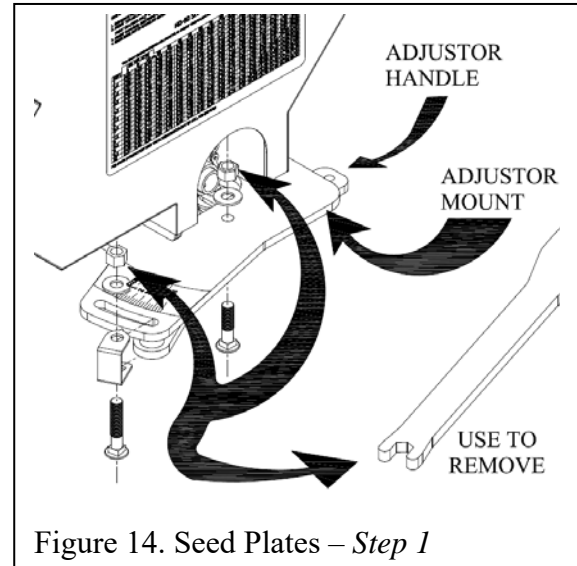

Figure 14. Seed Plates – Step 1
1. To change plates you will need two 9/16" wrenches and the Adjuster Wrench, DS27-026. Using the small end of the Adjuster Wrench, located on top of chain cover as shown in Figure 9. Loosen and remove the two 1/2" carriage head bolts connecting the adjuster handle to the Adjuster mount as shown Figure 14.
8. Reattach the Adjuster Handle to the Adjuster Mount as shown in Figure 14, and fasten bolts.